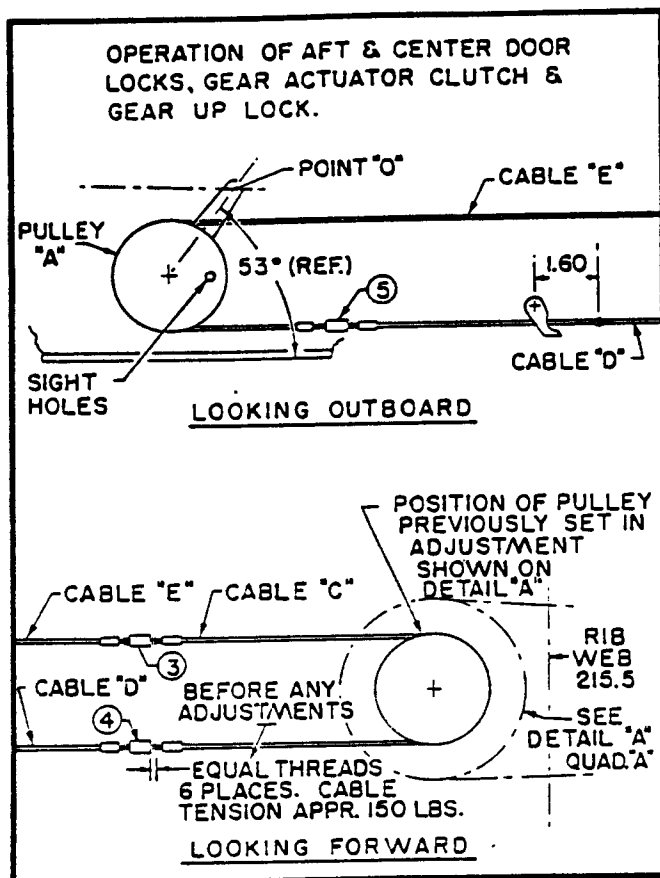

Figure 28. Rigging Main Gear Emergency Control Cables
a. After completing all adjustments made in the gear down position, return landing gear up-lock actuator to up-lock open position and then open the up-lock manually. Correlate this information with figures 28 and 29.
2. To produce 53° angle (figure 28), bring sighting holes into alignment by adjusting turnbuckles 3 and 4 equal and opposite.
WITH ADJUSTMENT MADE AS SHOWN IN FIG. 28 COMPLETE THE FOLLOWING OPERATIONS.